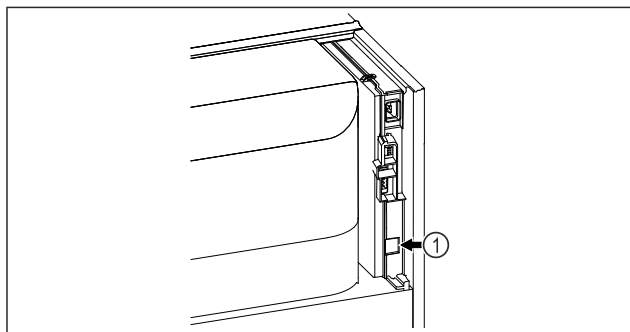

Fig. 135
- SmartModule Fig. 135 (1) is in use.